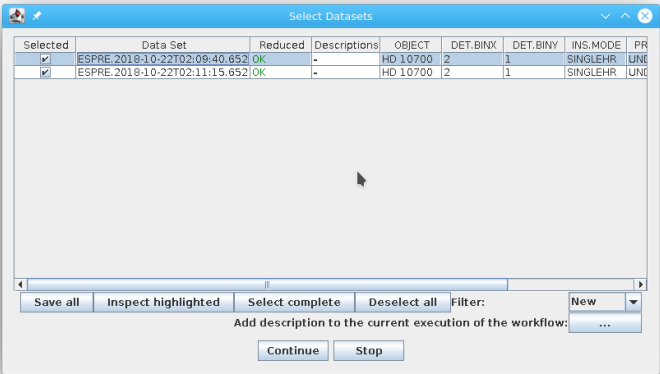

Figure 3.0.3: *The “Select Datasets” pop-up window.*
7. The `Data Set Chooser` actor will be highlighted next and will display a “Select Datasets” window (see Figure 3.0.3) that lists the datasets along with the values of a selection of useful header keywords². The first column consists of a set of tick boxes which allow the user to select the datasets to be processed. By default all complete datasets which have not yet been reduced will be selected. A full description of the options offered by the `Data Set Chooser` will be presented in Section 6.3.2.